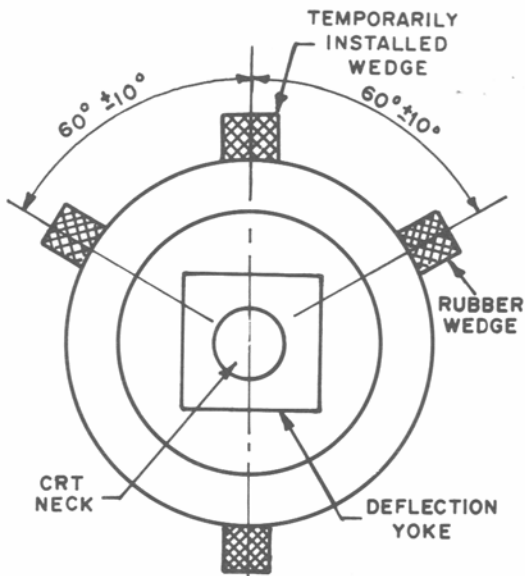

FIGURE 7
ADJUSTMENT OF DYNAMIC CONVERGENCE (Figures 7,8 and 9)
3. Insert three rubber wedges to the position as shown in Figure 7 to obtain the best circumference convergence.
4. The position of each rubber wedge is shown in Figure 7.